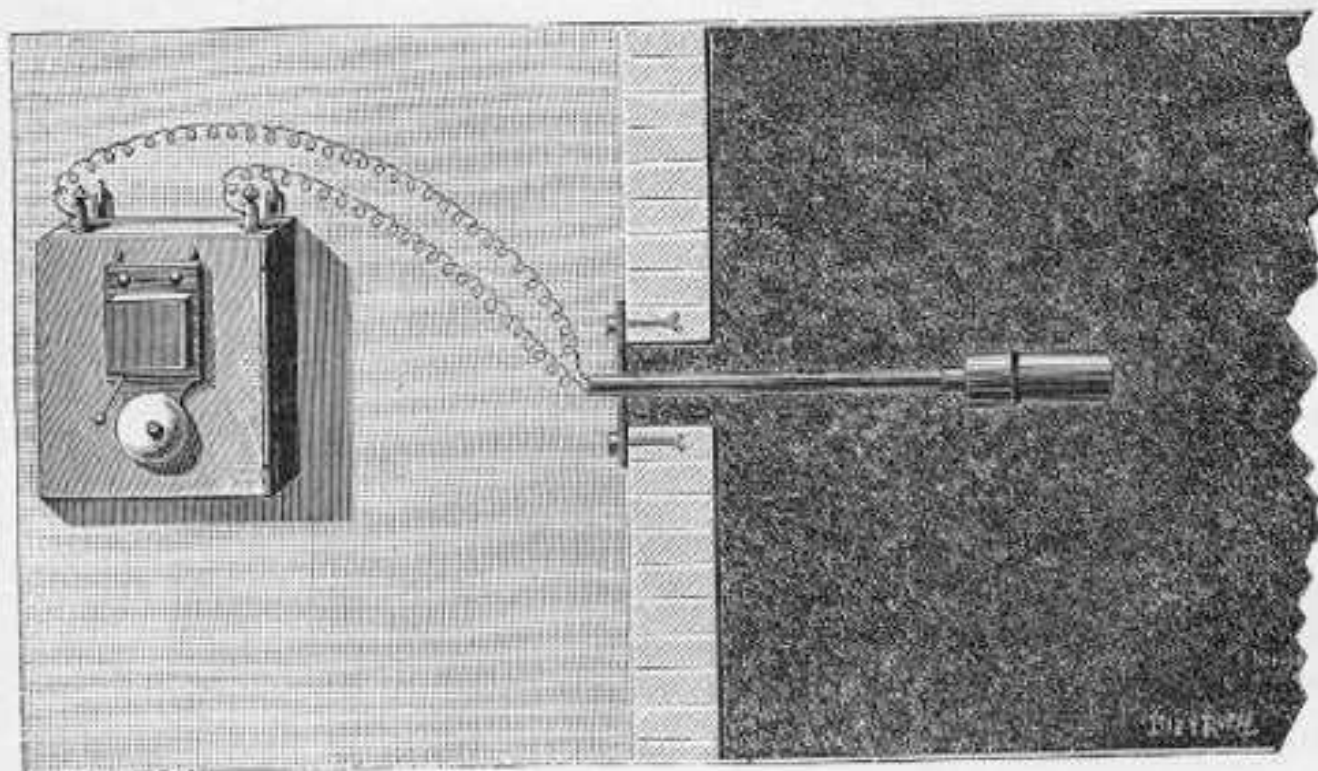
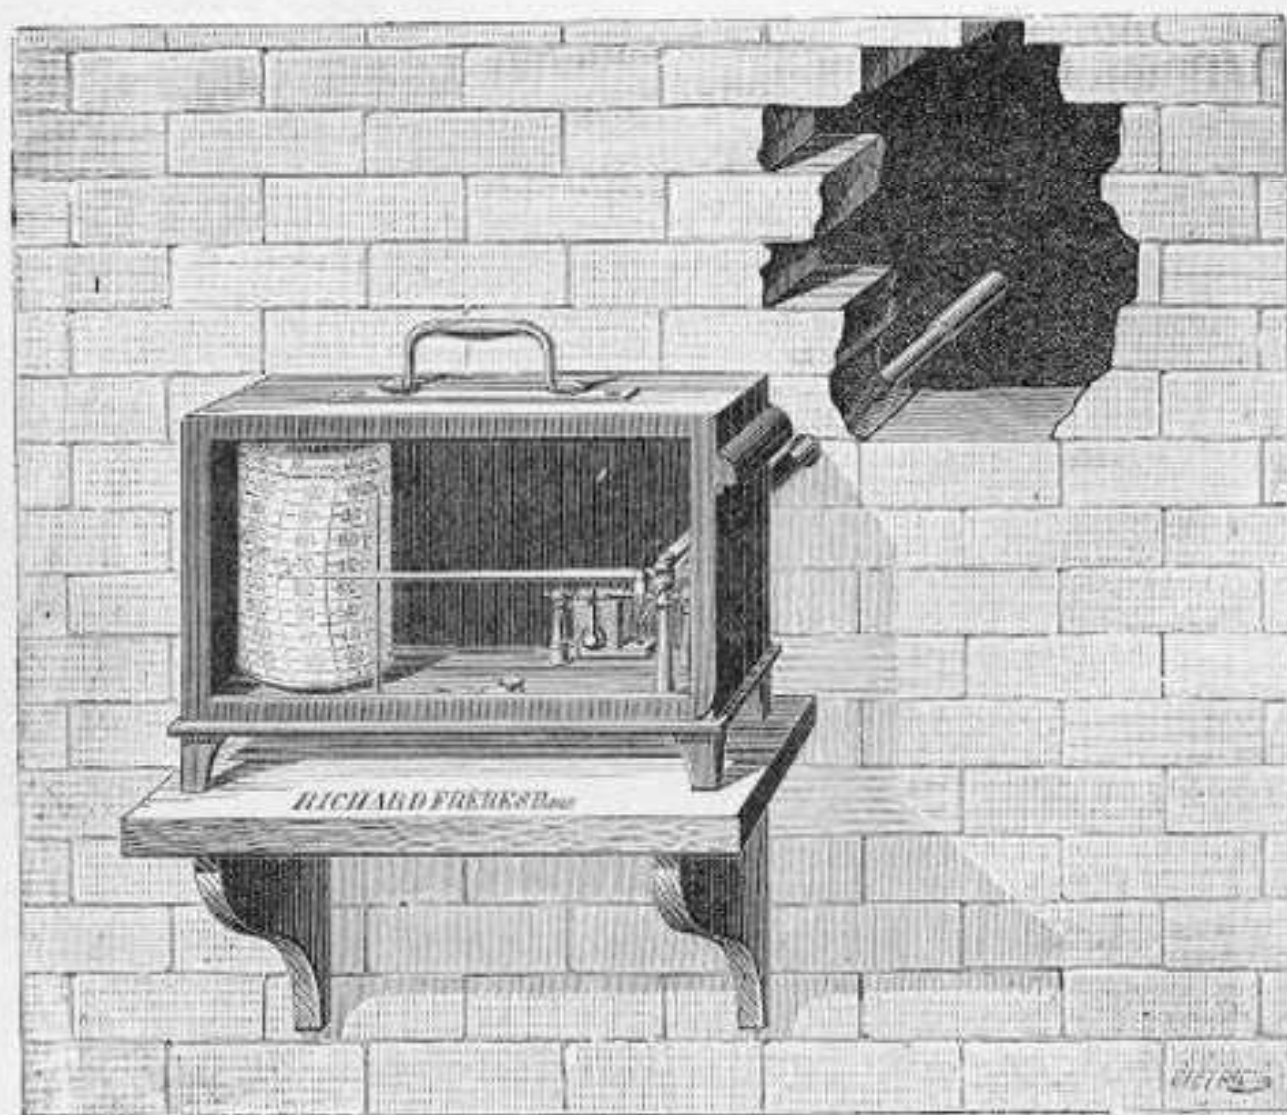

FIG. 6.
FIG. 7.
**Alarm Thermometer.** Fig. 6.—A series of small vacuum boxes (like those used for aneroids) filled with a gas and packed in a stout iron tube, makes an excellent and very cheap alarm thermometer for what may be called inaccessible places, such as coal bunks, silos, fodder sheds, boilers, baths, ovens, &c. The arrangement as represented in Fig. 6 rings the bell at any required point; it does not show the temperature, but can easily be made to do so, as in Fig. 7. This pattern (Fig. 7) is only made with a straight tube. Another pattern shows the present temperature, and rings the bell (or bells) at any points desired, but produces no record (see *Deal Thermometers*, pp. 13-15).
**Thermograph.** Fig. 7.—For use in damp chambers, drying stoves, and all situations to which access is difficult, and where the indicating and recording mechanism must be placed at a distance from the thermometer itself.